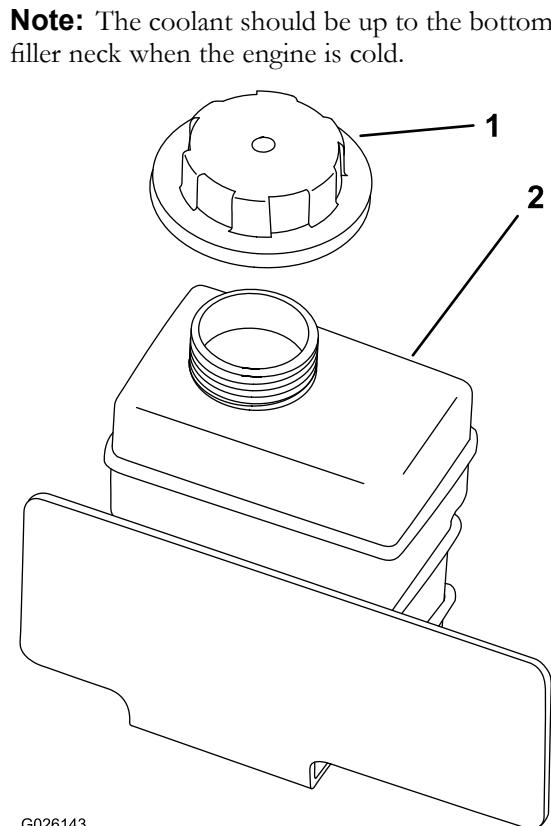

Figure 17
2. Check the coolant level inside the reserve tank (Figure 17).